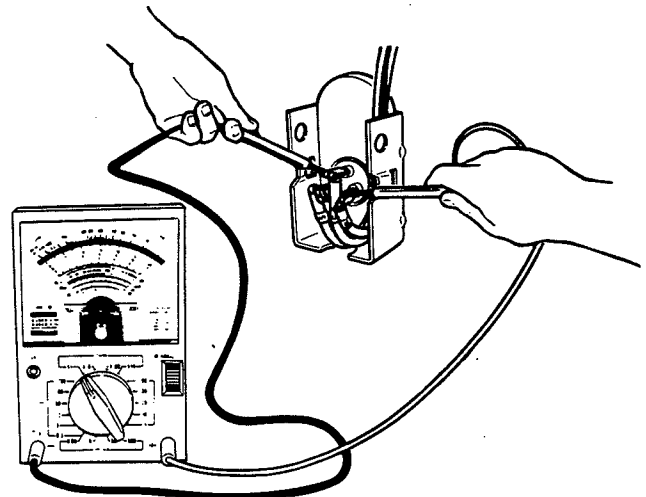

Figure 32. Ohmmeter and Connections
5. Connect ohmmeter to terminals C and R. Resistance through the run windings should be 1.01 to 1.17 ohms with ohmmeter set at X1 (Fig. 32).